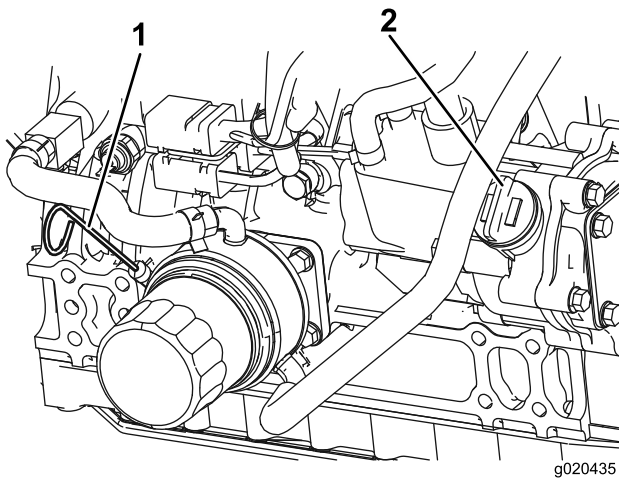

Figure 17
Note: The oil level should be in the safe range (Figure 17).
4. If the oil is below the safe range, remove the fill cap (Figure 17) and add oil until the level reaches the Full mark. **Do not overfill.**